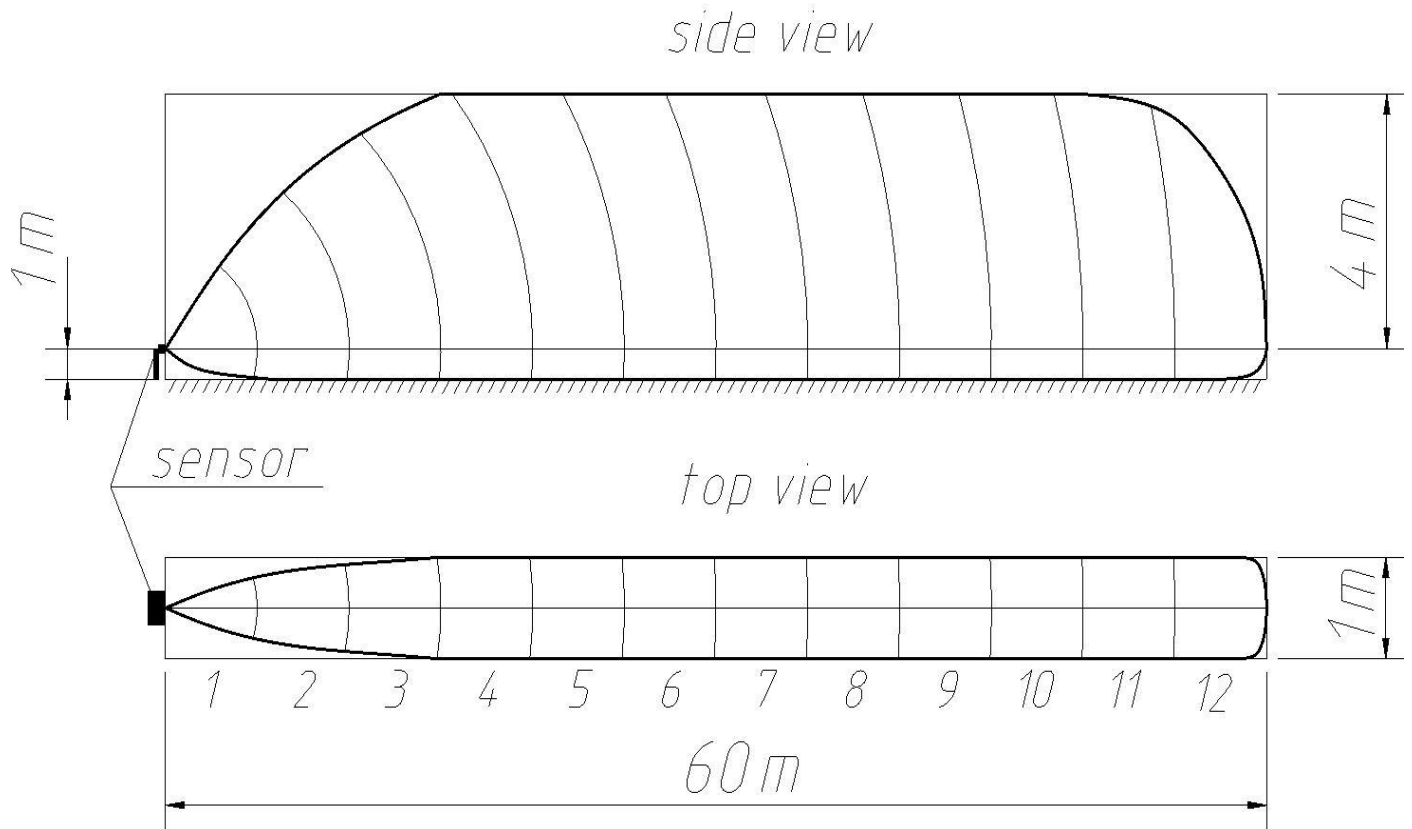

Figure 1.1 – Maximum detection zone of the sensor mounted on the pole 1 m above the ground
1.2.1 Figure 1.1 and tables 1.1, 1.2 show configuration of the detection zone of sensors mounted on poles, minimum and maximum detection range, detection width and detection height.